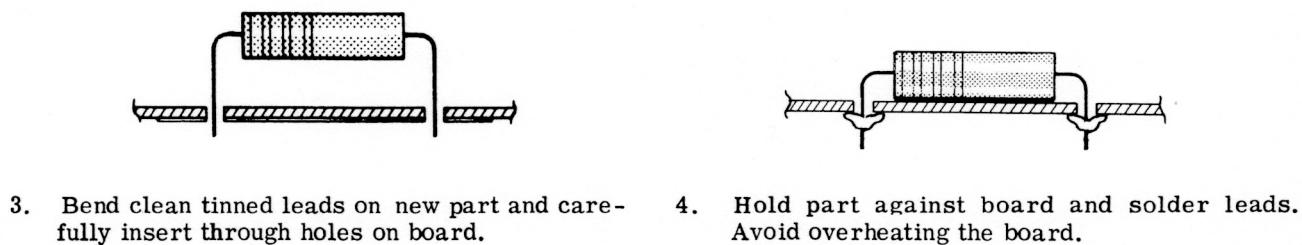

Figure 4-4
4) Check suspected circuits. Approximate waveforms and voltages are shown throughout the schematic diagrams. If you change parts in any circuit listed in Table 4-1, check the indicated adjustment. Figure 4-4 gives instructions for servicing etched circuit boards.